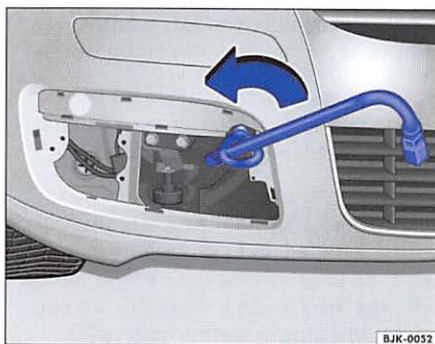

Fig. 43 The front right section of the vehicle: fitting the towing eye
- Screw the towing eye into the threaded hole, turning *counter-clockwise* as far as it will go ⇒fig. 43.